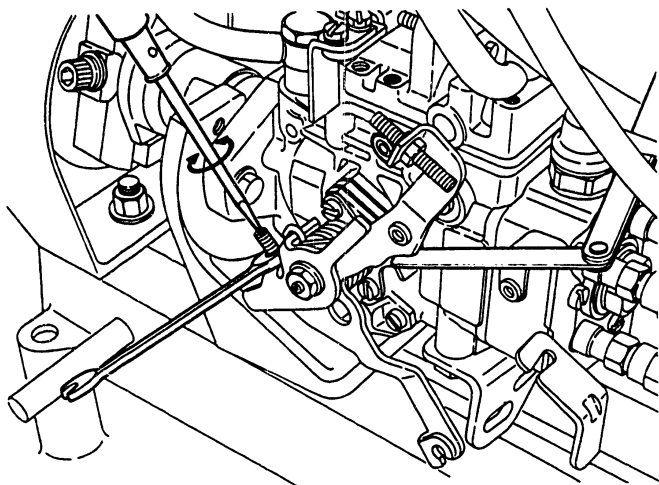

Fig. 172 Setting the adjusting screw
3. While holding the lever shaft's ball pin against the roller holder with the timer stroke at zero, adjust the M-C.S.D. lever position by turning the adjusting screw so that the distance between the stopper flange and the M-C.S.D. lever is as specified. Then, confirm the above measurement by moving the M.C.S.D. lever two or three times. (Fig. 172 )